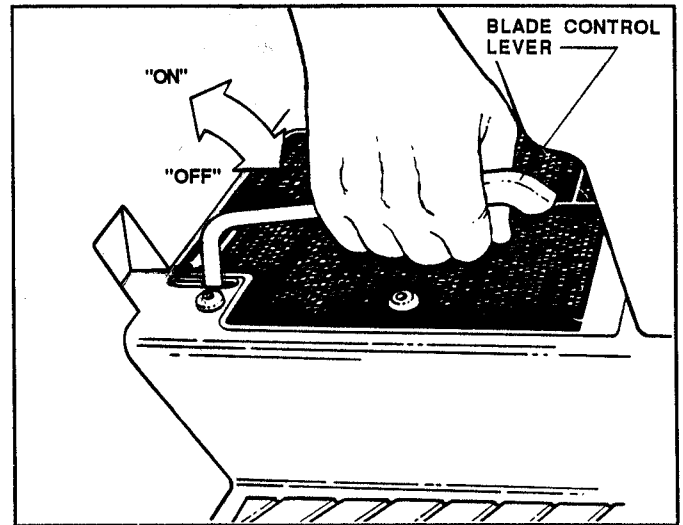
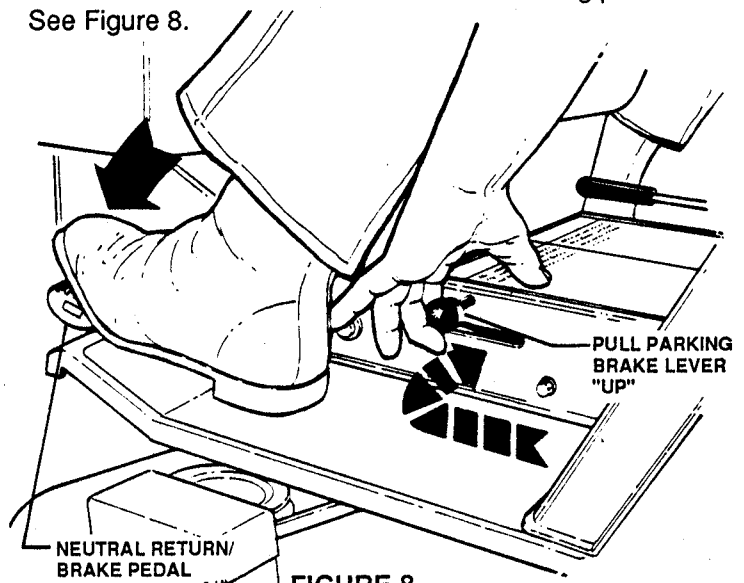

FIGURE 4
FIGURE 8
MOWER BLADE: STOP MOWER BLADE by pushing BLADE CONTROL lever downward to "OFF". See Figure 4.
1. PUSH BLADE CONTROL LEVER downward to "OFF" position (Fig. 4) and fully depress the NEUTRAL RETURN/BRAKE PEDAL (Fig. 8), so that Safety Interlock System will allow engine to start.
Depress NEUTRAL RETURN/BRAKE PEDAL. Pull PARKING BRAKE LEVER "UP" while releasing pedal. See Figure 8.